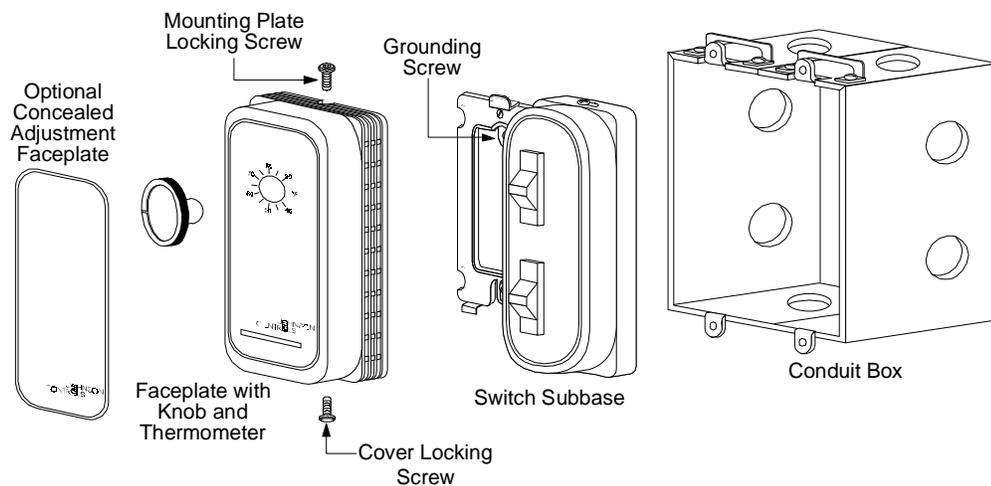

Figure 5: T46 Series Thermostat
3. Remove the subbase by loosening the subbase locking screw (see Figure 5), and lifting and removing the subbase.